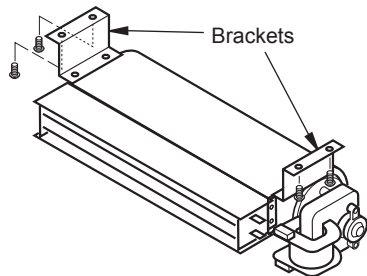

Figure 20 - Removing Blower/Blower Assembly
3. Remove 4 screws holding blower/heater and brackets to fireplace top (see Figure 20).